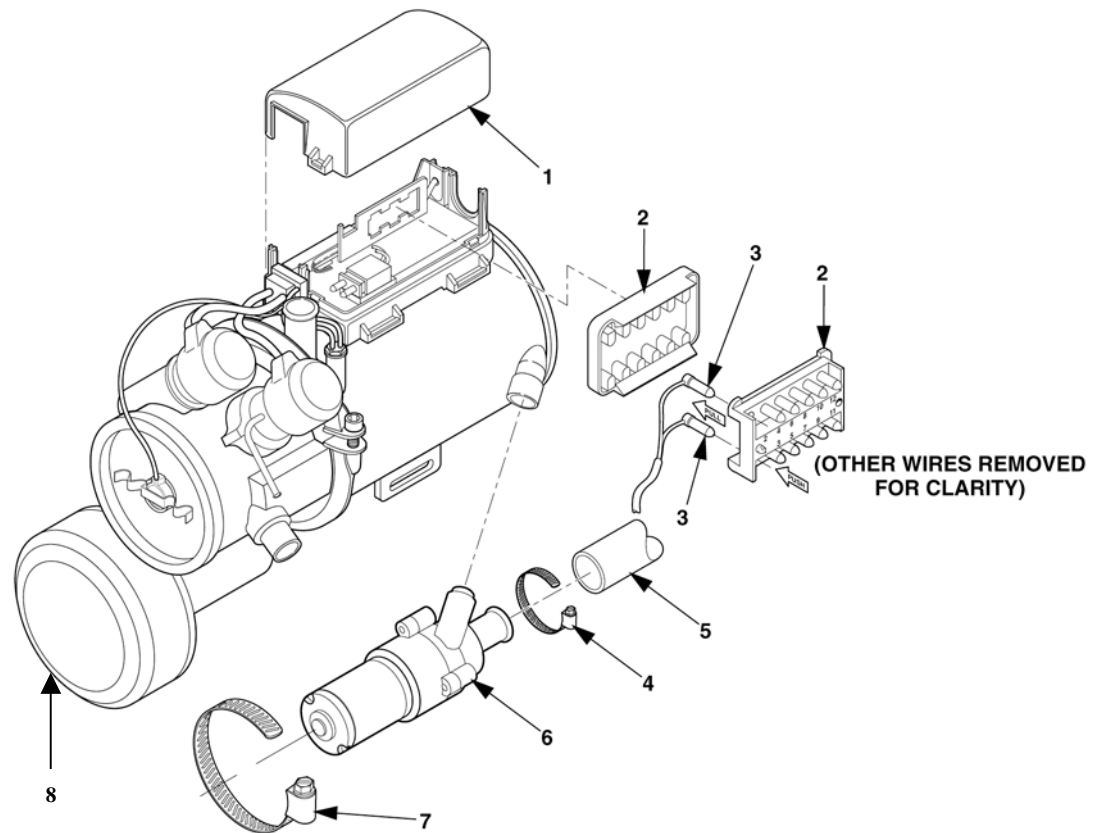

Figure 4-31. Coolant Pump Maintenance.
2. Remove electrical cover (1), Figure 4-31 and 12-pin connector (2).
3. Remove 12-pin connector (2) and push out pins (3) to coolant pump (6).
4. Remove clamp (7) attaching pump (6) to heater (8).
5. Loosen clamp (4) and remove outlet hose (5) from pump (6), using a container to catch coolant from hose.